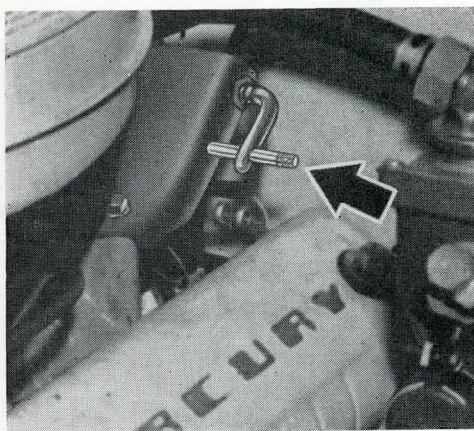
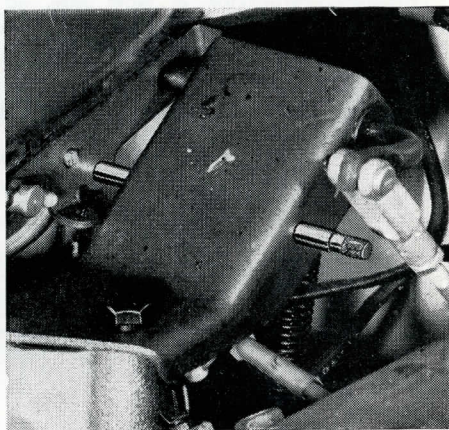

Figure 36
Figure 37
4. On 1954 and 1955 insert gauge pin tool through control rod and shaft bracket, as shown in Fig. 36. On 1956 models insert the pin as shown in Fig. 37.